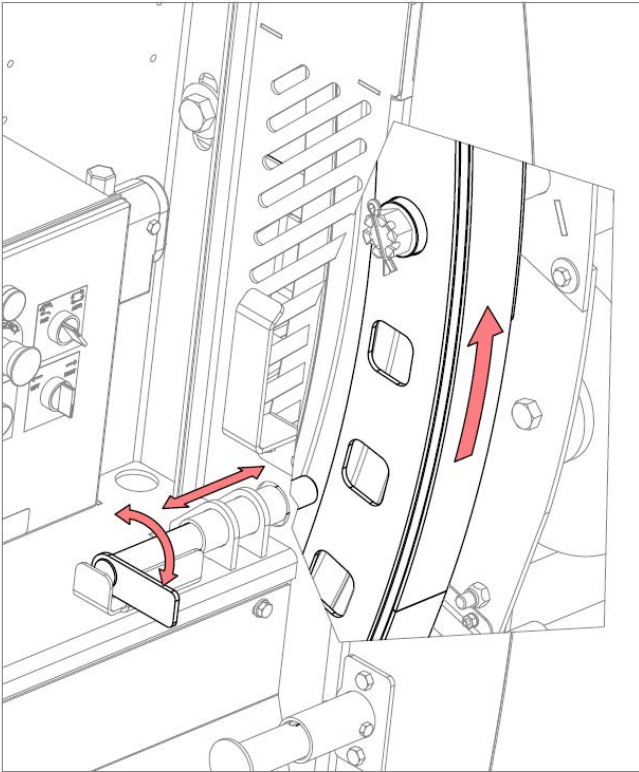

Fig.1
1. Rotate hoop manually until empty plastic wrap carrier can be accessed from the left safety guard position. See Fig.1.
2. Lift handle and insert hoop lock pin through hole in hoop to lock plastic wrap carrier to desired height. See Fig.1.